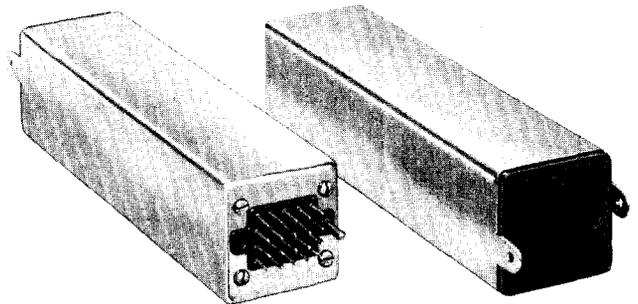

Fig. 1—332A Relay
2.01 The 332A relay is a plug-in unit (see Fig. 1) equipped with a 20-pin connector plug and is designed to be plugged directly into the mating connector socket of the equipment mounting shelf. Tabs are provided on the front of the can so that the relay can be removed from its connector socket by the use of a 602C or 602D tool. The relay consists of two MB12A relays, mounted on a printed wiring board. It is housed in a metal can approximately 1-3/4 inches wide by 1-3/4 inches high by 7 inches long.